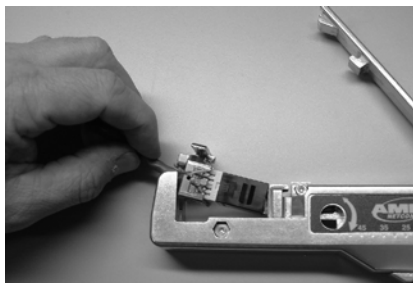

Figure 9
15. Insert the lacing fixture (with the jack connector) into the tool. See Figure 9.